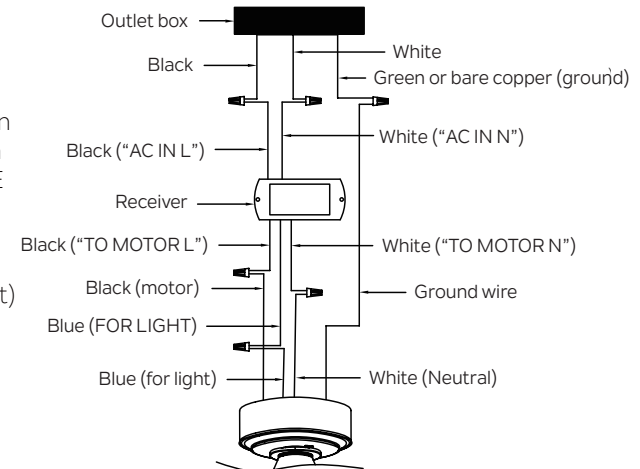

Fig. 14
Step 2. Motor to Receiver Electrical Connections: Connect the BLACK wire from the fan to BLACK wire marked "TO MOTOR L" from the receiver. Connect the WHITE wire from the fan to the WHITE wire marked "TO MOTOR N" from the receiver. Connect the BLUE wire from the fan to the BLUE wire marked "FOR LIGHT " from the receiver. Secure all the wire connections with the plastic wire connectors provided. (Fig. 14)
Step 3. Remote Receiver to Outlet Box Electrical Connections: Connect the BLACK (hot) wire from the ceiling to the BLACK wire marked "AC IN L" from the receiver. Connect the WHITE (Neutral) wire from the ceiling to the WHITE wire marked " AC IN N" from the receiver. Secure all the wire connections with the plastic wire connectors provided. (Fig. 14)
Step 4. If your outlet box has a ground wire (green or bare copper) connect it to the fan ground wires. Otherwise, connect the fan ground wire to the mounting bracket. Secure the wire connection with a plastic nut provided. After connecting the wires, spread them apart so that the green and white wires are on one side of the outlet box and black and blue wires are on the other side. (Fig. 14)